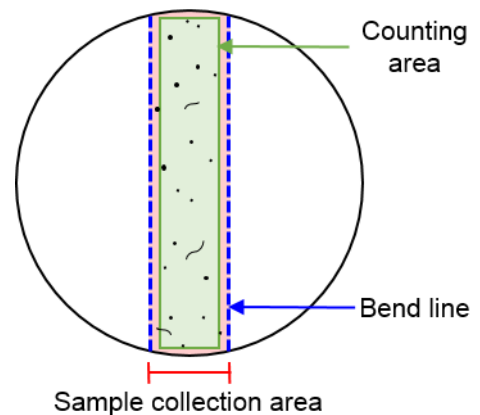

Figure 32. Illustration of typical filter sample (not to scale)
- 8) Align the length of the filter's sample collection area with the stage's y-axis. As Figure 32 illustrates, samples typically have a bend line (or two) where the filter was folded over the swipe tool's sponge. Use the forceps to rotate the filter so the bend line is parallel to the stage's y-axis. The filter must still be centered over the circle on the acetate template.